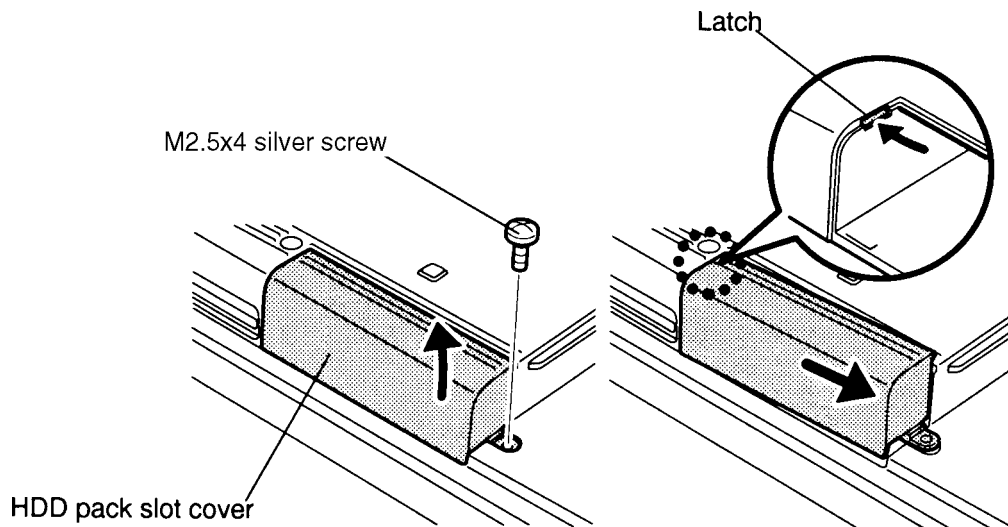

Figure 4-7 Removing the HDD pack cover
To remove the T4850CT's hard disk drive, follow the steps below and refer to Figures 4-7 through 4-10.
4. Remove the **M2.5x4 silver screw** securing the **HDD pack slot cover** at the bottom of the computer (Figure 4-7).
5. Slightly lift up the side of the **HDD pack slot cover** that was secured by the screw. A **latch** holds the other side to the computer (Figure 4-7).
6. Slide the **cover** to disengage the latch and lift off the cover. You will see the HDD pack (Figure 4-7).
6. Fit the **latch** on the HDD pack cover into the **notch** on the computer, rotate the cover into place, and secure the **one M2.5x4 silver screw** (Figure 4-7).